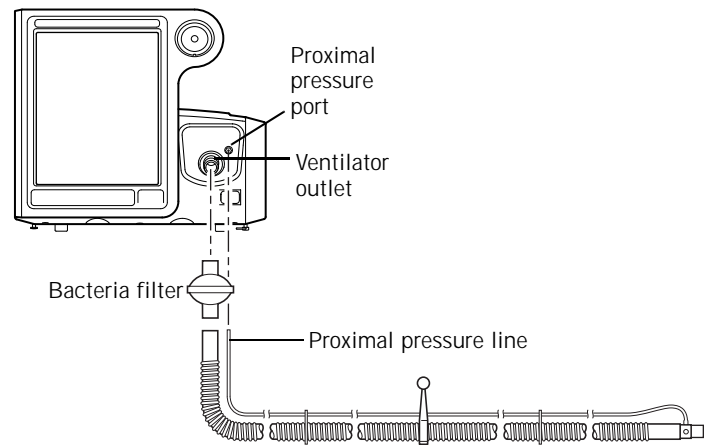
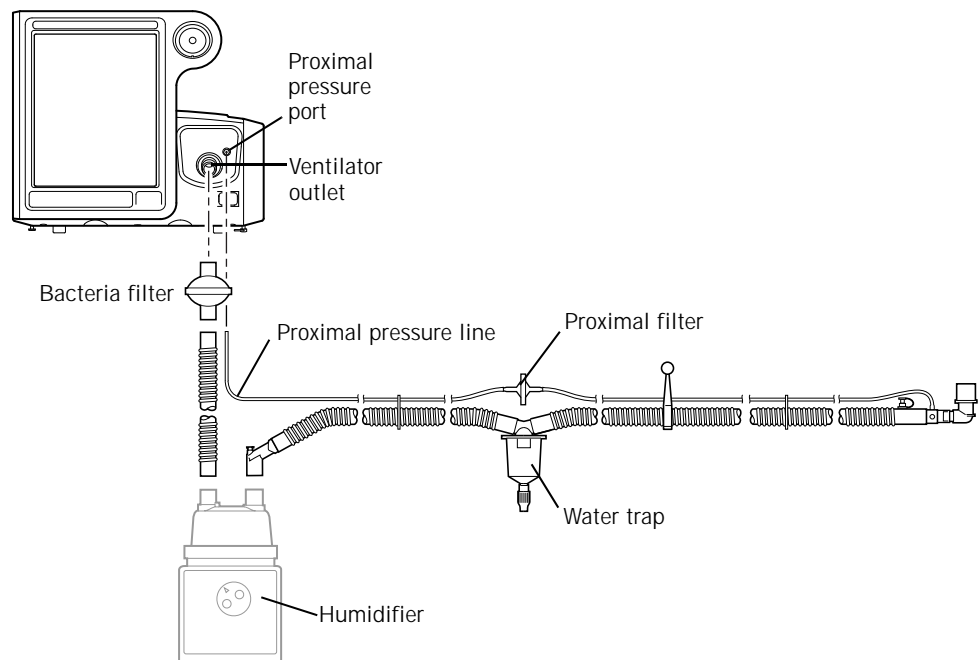

Figure 5-2: Noninvasive patient circuit, without humidification
Figure 5-3: Invasive patient circuit, with humidification
1. Assemble the patient circuit, including the main flow (inspiratory) bacteria filter, proximal pressure line, and humidifier (if desired). Figure 5-2 and Figure 5-3 show circuit configurations for noninvasive
1. Connect ventilator to AC power and the oxygen supply. Assemble the patient breathing circuit.	Breathing circuit is assembled correctly. See Figure 5-2 on page 5-3 or Figure 5-3 on page 5-3.